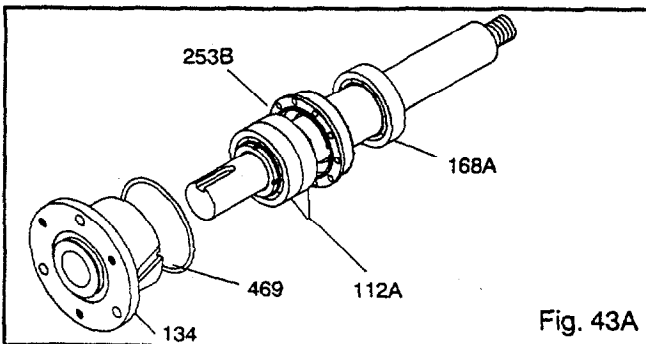

Fig. 43A
5. Remove bearing housing (134) from shaft (122) with bearings (112A, 168A) (Fig. 43A).
6. Remove bearing housing O-ring (469).